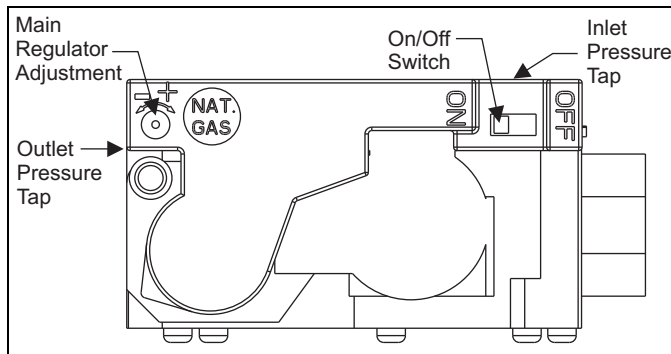

Figure 41: Gas Valve
Inlet and manifold gas pressure may be measured by connecting the "U" tube manometer to the gas valve with a piece of tubing. Follow the appropriate section in the instructions below. See Figure 41 for the locations of the pressure ports on the gas valve.
4. See Figure 41 for location of pressure regulator adjustment screw on main gas valve.